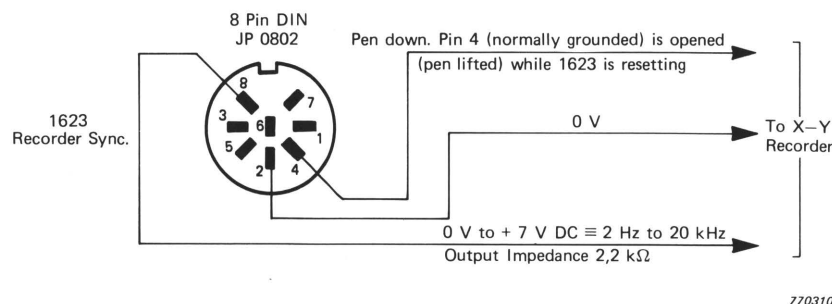

Fig.4.6. Connections for synchronisation cable between 1623 and an X-Y recorder. Soldering side of plug shown
2. Connect the RECORDER SYNC. socket on the rear panel of the 1623 to the X or Y input of the X-Y recorder as required. A cable can be made up according to Fig.4.6.